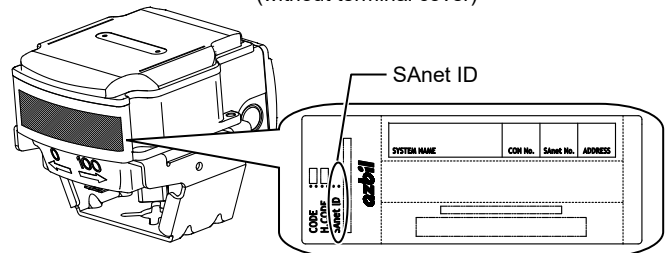

Figure 15. SAnet ID on the product code label
2. With Data Setter or PC-MMI, enter the SAnet ID (on the product code label) and address number to set. The product code label is attached on the side surface of the actuator, as shown in Fig. 15.